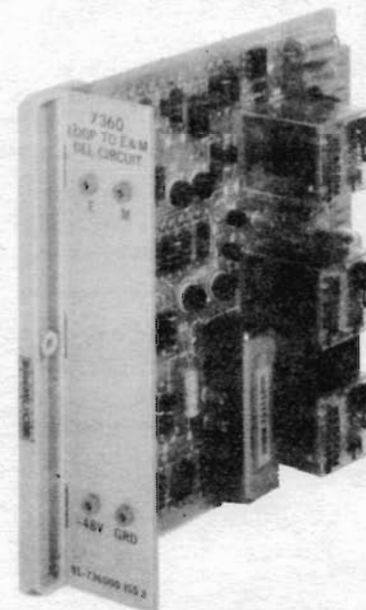

Figure 1. 7360 Loop to E and M DLL Circuit
1.02 The 7360 Loop to E & M DLL Circuit (Figure 1), is a plug-in, printed-circuit module used to: (1) provide operation from either a loop-start or ground-start supervisory signal, (2) convert local loop- or ground-start supervision and dial pulse information into appropriate M-lead signals for transmission towards the CO, (3) provide for either open or grounded E-lead supervision during busy, (4) convert E-lead signals received from the CO into ringing signals, (5) operate premonitory busy with reverse battery towards the local station when required, and (6) terminate an associated repeater during dialing and when idle. The 7360 circuit is installed at the subscriber end or at an intermediate point on a long subscriber line or PBX off premise station. The